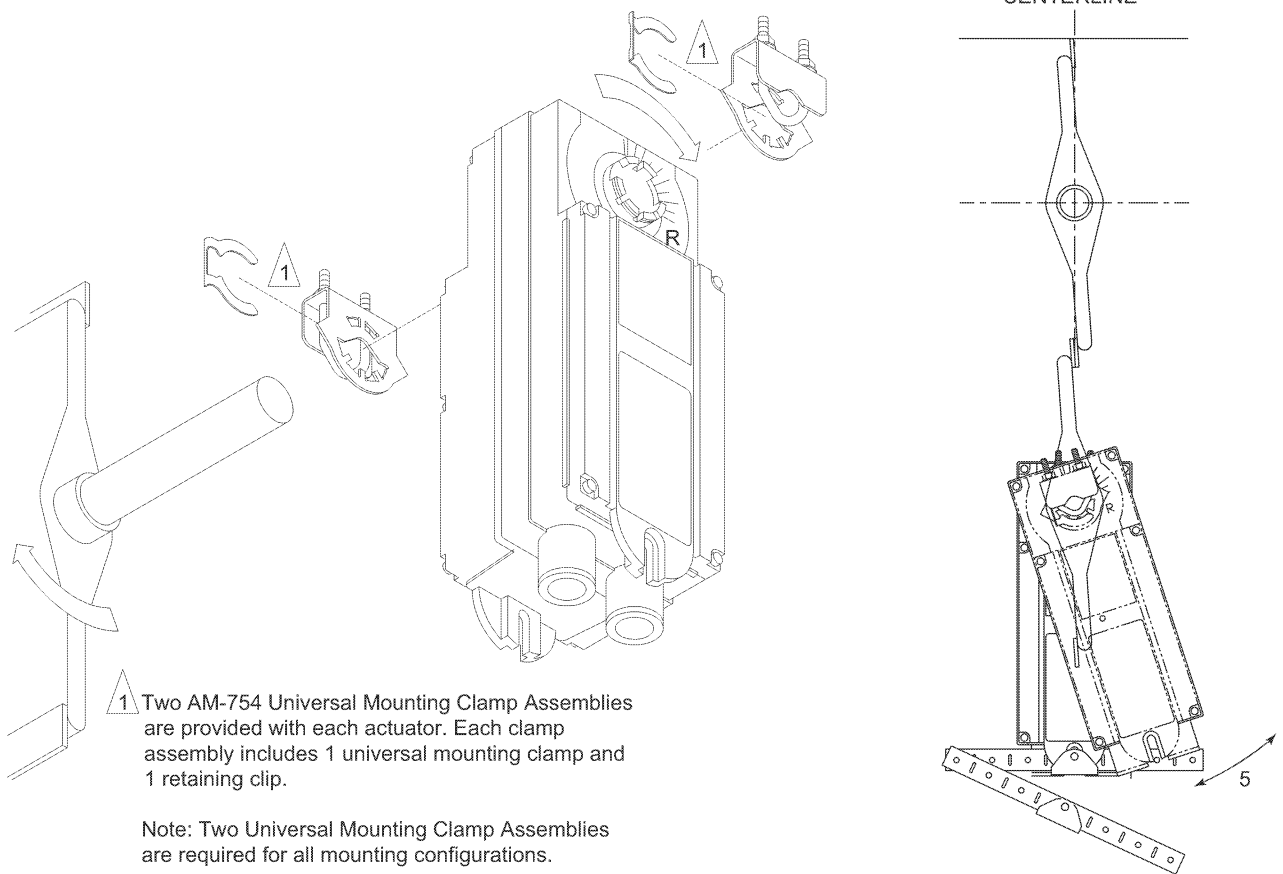

Figure-7 Long Damper Shaft Installation and Actuator Parts Identification.
- If the damper shaft rotates clockwise to the closed position, mount the actuator with the side marked "R" facing the installer. See Figure-7.
7. Pivot the anti-rotation bracket away from the actuator. See Figure-7.
8. Loosen the universal mounting clamps, making sure not to move the damper shaft. Rotate the actuator approximately 5° in the direction which would open the damper. See Figure-7.
10. Manually rotate the actuator toward the full-closed position to apply pressure to the damper seals. See Figure-7.
11. Pivot the anti-rotation bracket into place and secure the other side of the bracket onto the mounting surface using the other screw provided with the actuator. See Figure-7.
12. Verify that the damper is in its full-closed position and actuator at 90° (perpendicular) to the damper shaft. See Figure-7.
9. Attach one side of the anti-rotation bracket to the mounting surface with one of the screws provided. Leave the screw loose so that the bracket can be rotated. See Figure-7.
10. Pivot the anti-rotation bracket away from the actuator. See Figure-7.
11. Loosen the universal mounting clamps, making sure not to move the damper shaft. Rotate the actuator approximately 5° in the direction which would open the damper. See Figure-7.
13. Manually rotate the actuator toward the full-closed position to apply pressure to the damper seals. See Figure-7.
14. Pivot the anti-rotation bracket into place and secure the other side of the bracket onto the mounting surface using the other screw provided with the actuator. See Figure-7.
15. Verify that the damper is in its full-closed position and actuator at 90° (perpendicular) to the damper shaft. See Figure-7.